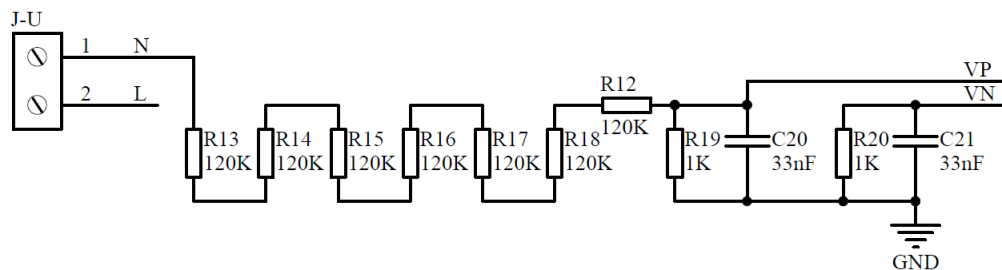

Figure 3-2 Voltage Sampling
There is one voltage channel on the ATM90E2x-DB. Line voltage (AC) is connected to the screw terminal (J-U) directly. Resistor divider network is used for voltage sampling. Please refer to Figure 3-2 for details.